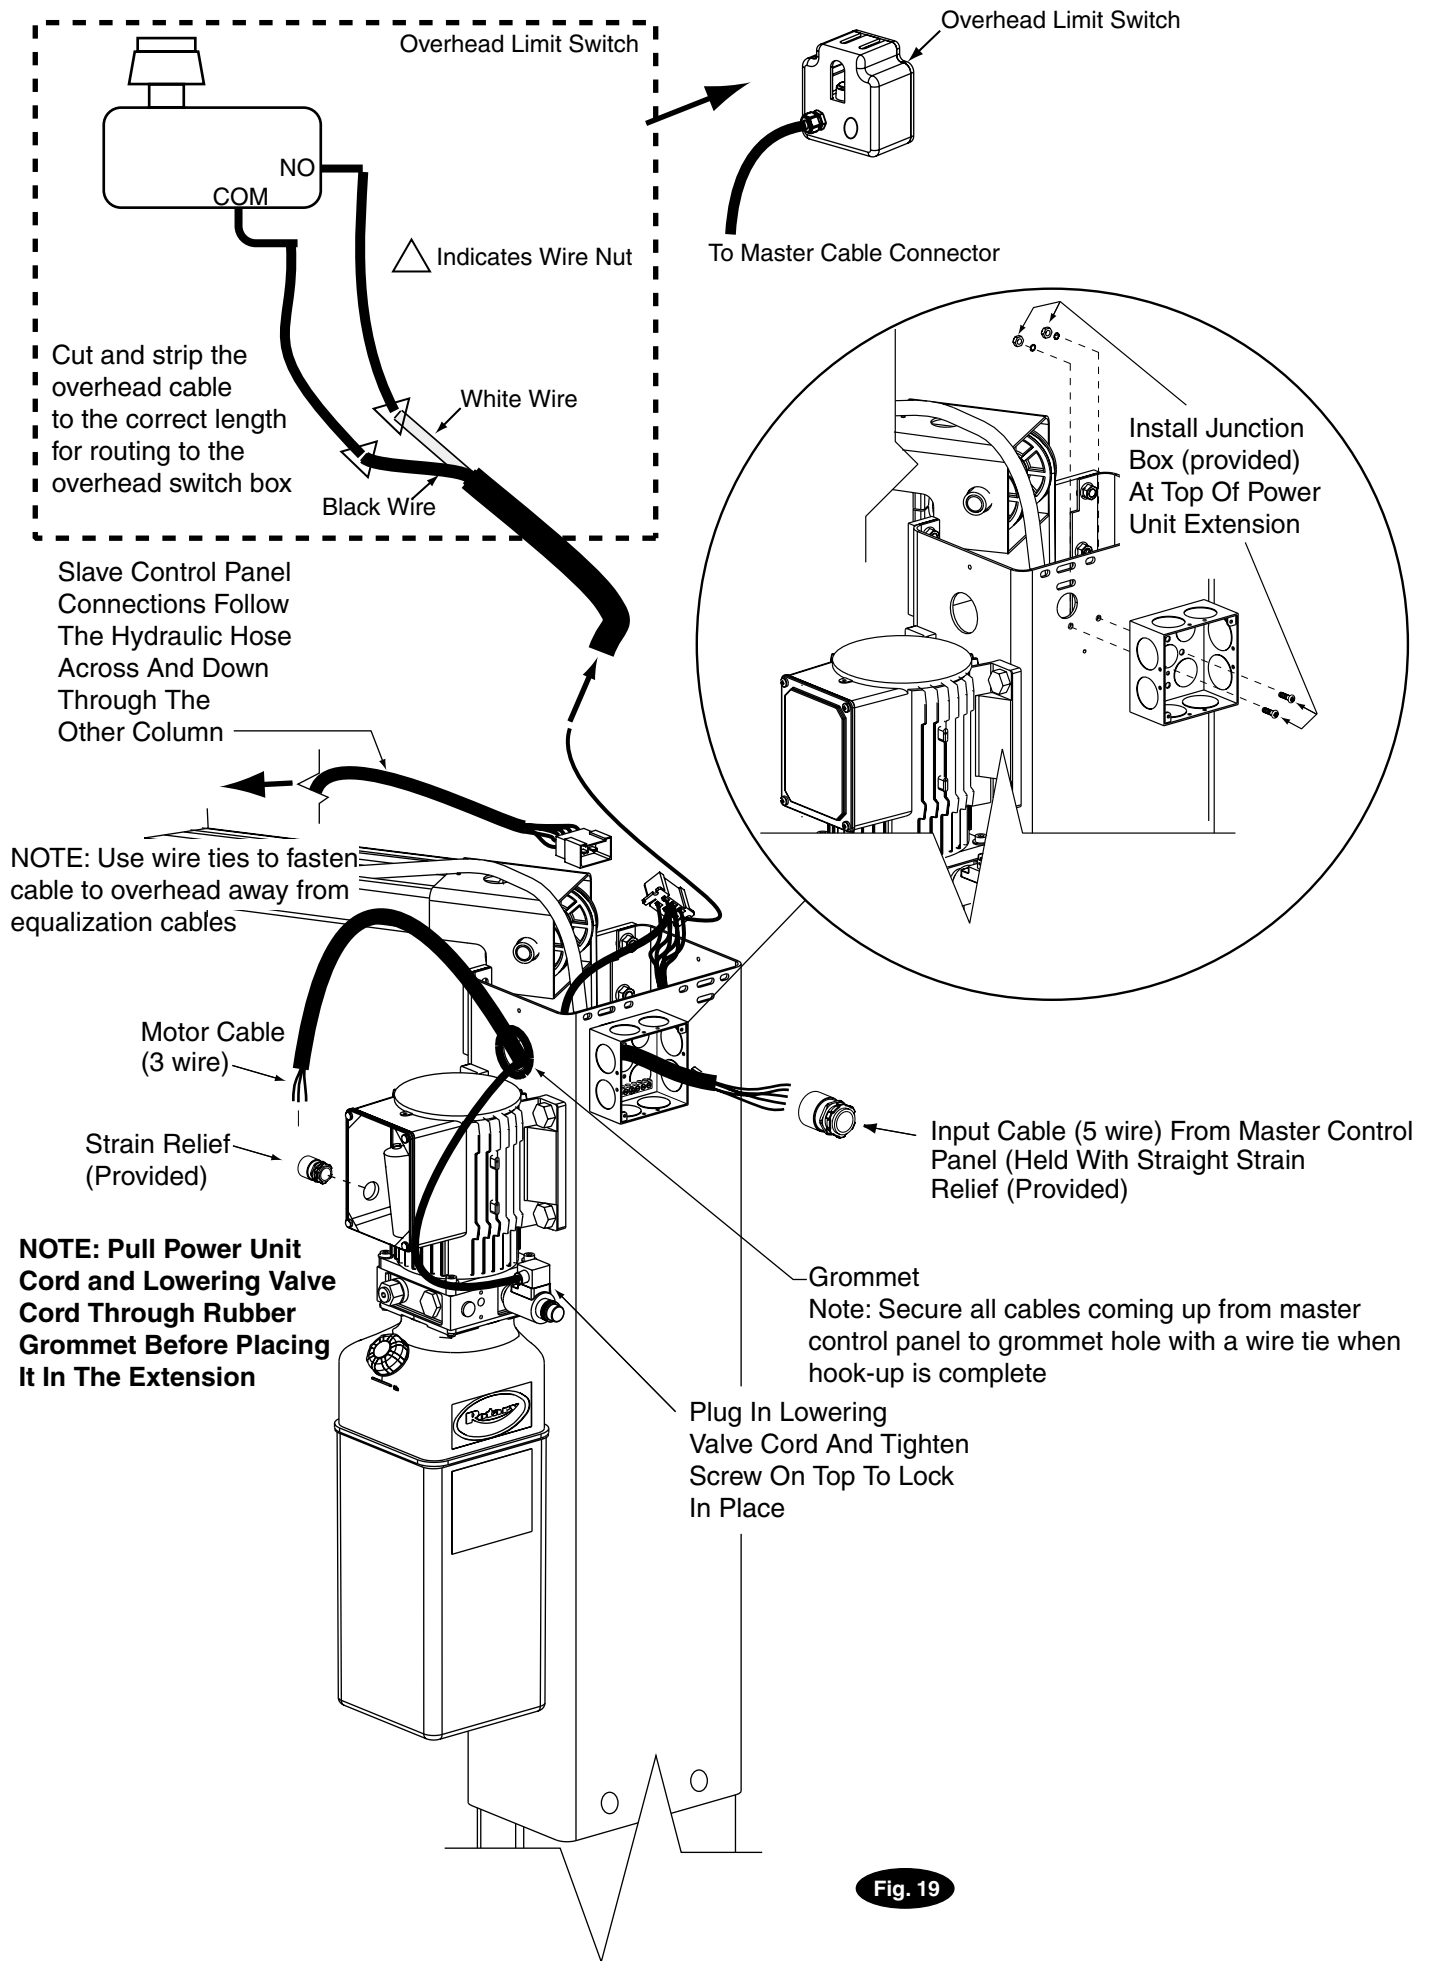

Fig. 19
- A) Attaching junction box: Attach junction box (provided) onto power unit column with two #12-24NC x 3/4" Lg. PHMS, washers, and nuts, Fig. 19. Install grounding block (provided by installer) into junction box.
- F) Route input cable multi-conductor cord through strain relief (provided) and junction box, Fig. 19.
- G) Locate the overhead switch cable at the master cable connector. Feed the overhead switch cable through the strain relief and into the overhead switch box. Cut the wire to the correct length, strip and terminate it to the overhead switch with wire nuts, Fig. 19. Note: The wire length is long enough to service standard height, EH1, 2 or 4 models.
- H) Locate the lowering valve cable (attached to the master cable connector) and the motor cable. Place rubber grommet in top hole above the power unit and run the lowering valve cable (first) and motor cable (next) through the hole, Fig. 19.
**18. Electrical:** Have a certified electrician run appropriate motor voltage to lift, Fig. 19. Size wire for 20 amp circuit. See Motor Operating Data Table.